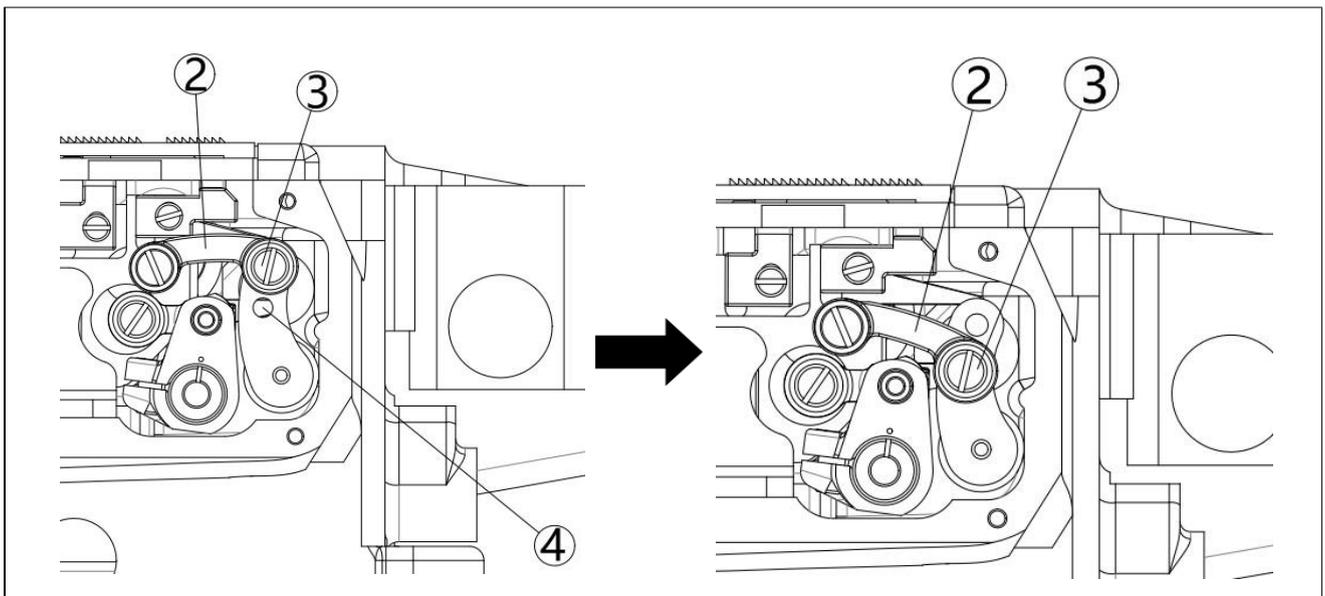

Figure 7-35
- (2) Remove the fixing screw③ of the differential tooth frame linkage②. (Figure 7-35)
- (3) Use the fixing screw③ to install the differential tooth frame linkage② on the screw hole④. (Figure 7-35)